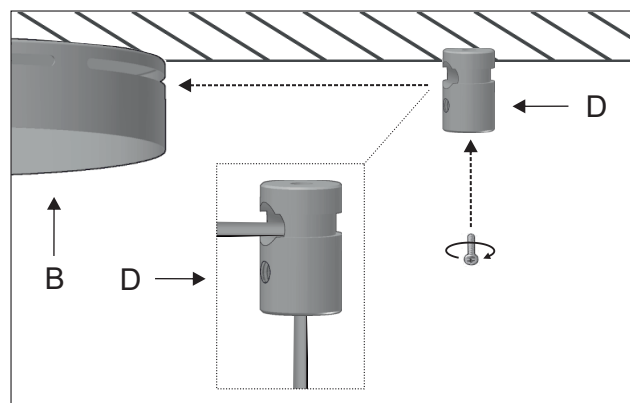

Figure 3
- 3 - Screw the cable holder (D) at the desired point in the ceiling. When creating a composition, we recommend to previously mark the heads's positions in order to get the desired figure.
Attention: Make sure that the cable outlet points towards the mounting bracket (B). Figure 3